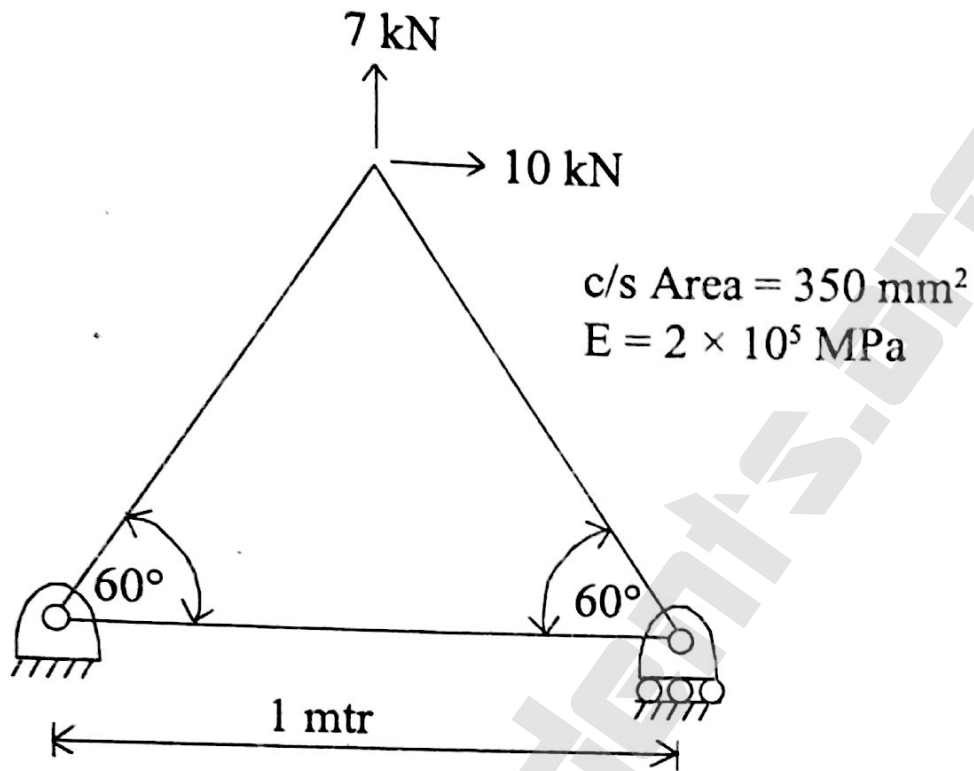

Fig. 3, Q. 8
8. For a pin joined truss shown in Fig. 3, treating each member as 1-D linear element, determine :